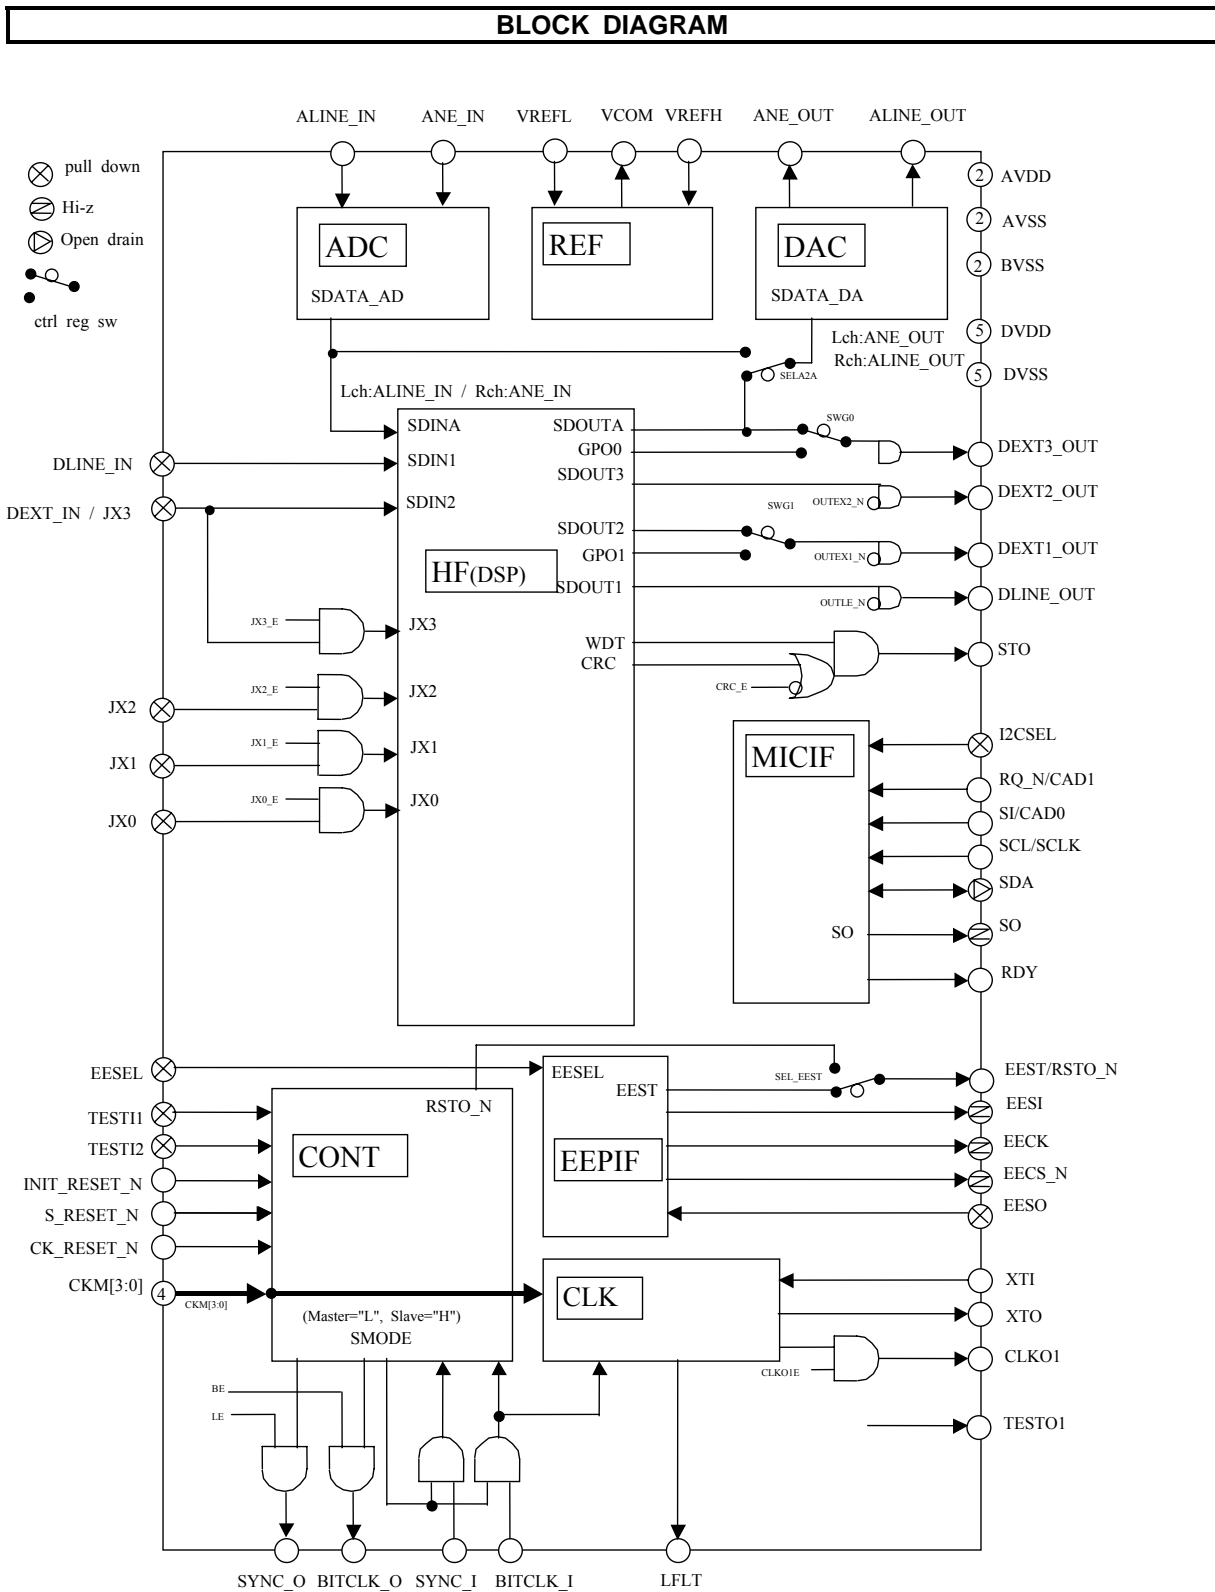

Figure 1. Block Diagram
* Figure 1 shows a simplified diagram of the AK7752, which isn't the perfect same as the actual circuit diagram.